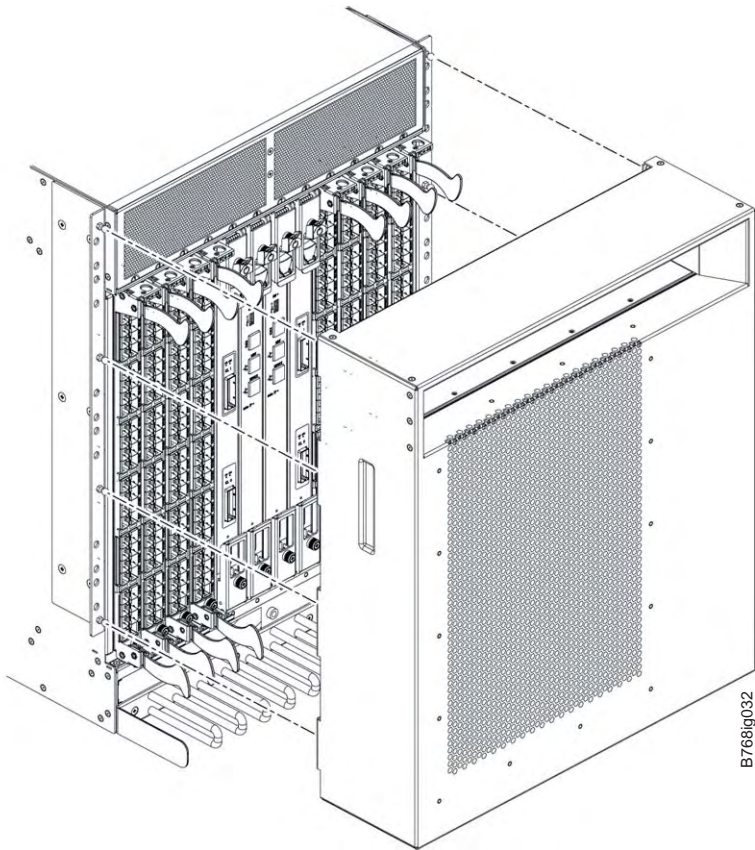
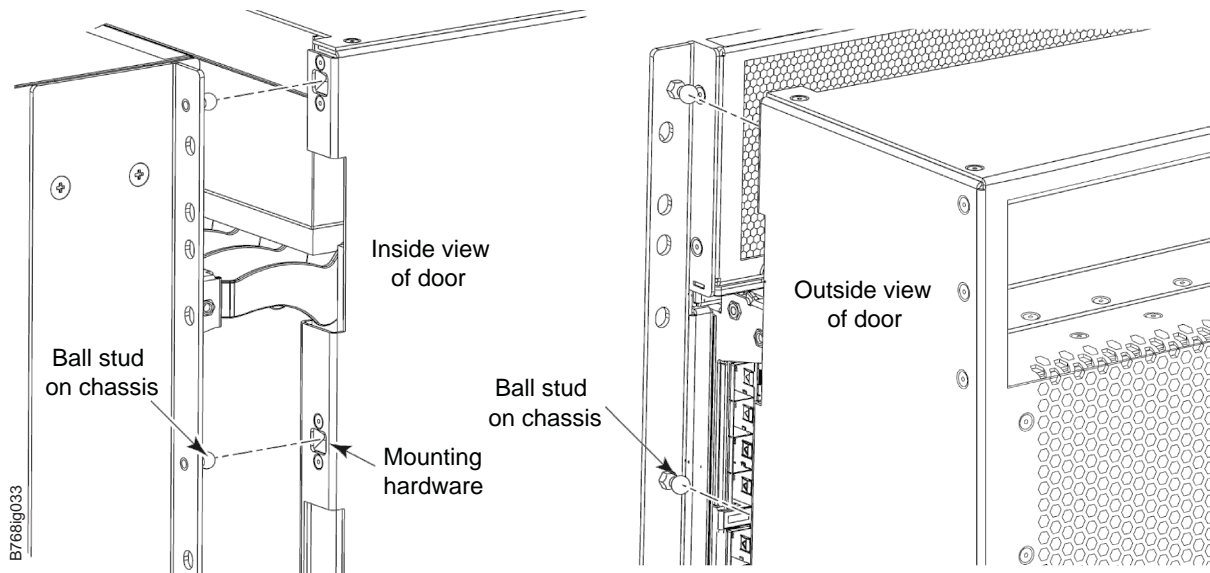

Figure 10. Aligning the chassis door with the ball studs on the chassis
Figure 11. Details of the chassis and door, showing the ball studs on the chassis and the mounting hardware on the door
21. Reinstall the chassis door. Align the door with the chassis and push it into place, as shown in Figure 10 on page 23 and Figure 11 on page 23.